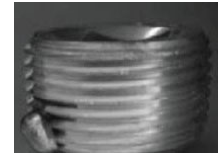
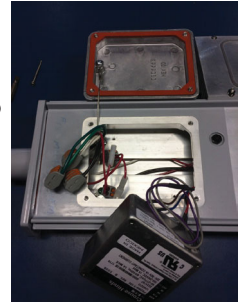

Figure 13
Figure 14
1. Verify sufficient STL lubricant is on conduit entries and that all unused conduit entries on the end caps are closed with lubricated plugs (see Figure 13).
2. Verify conduit is installed to at least five (5) full threads into the end cap conduit entries. Recommend approximately 1/8" bead STL on conduit entries.
6. Verify all wires are safely and neatly inside driver cover and not on top of driver. Re-attach driver cover to fixture housing (see Figure 14).
8. Remove the two (2) screws that secure the AC driver; remove the old AC driver.
10. Reinstall the new AC driver into the luminaire, ensuring that the leads are facing towards the EM driver (see Figure 14).
11. Ensure that the AC driver is in direct contact with the luminaire housing and no wires are being pinched between the driver and the housing. Secure with two (2) screws and tighten to 5 in.-lb. (0.6 N-m).